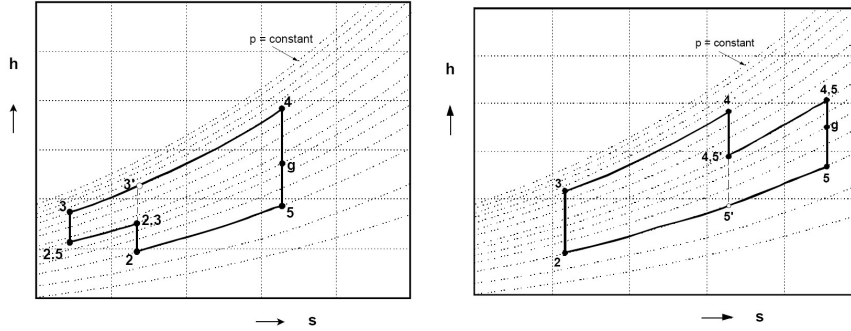

Figure 2: The enthalpy-entropy diagram for intercooling (left) and reheating (right).
2.5). (This is usually done such that $T_{2.5} = T_2$. Intercooling is also performed isobarically, so $p_{2.3} = p_{2.5}$.) Finally, the gas is compressed again, until we're at point 3. The applied pressure ratio during this step is $\varepsilon_2 = p_3/p_{2.5}$. The total applied pressure ratio is $\varepsilon_{tot} = \varepsilon_1\varepsilon_2 = p_3/p_2$. The entire process of intercooling has been visualized in figure 2 (left).
From point 4, we start by expanding the gas in the turbine. We soon reach point 4.3. (Again, we define $\varepsilon_1 = p_4/p_{4.3}$.) The gas is then reheated, until point 4.5 is reached. (This is done isobarically, so $p_{4.3} = p_{4.5}$.) From this point, the gas is again expanded in a turbine, until points g and 5 are reached. We now have $\varepsilon_2 = p_{4.5}/p_5$ and $\varepsilon_{tot} = \varepsilon_1\varepsilon_2 = p_4/p_5$. The entire process of reheating has been visualized in figure 2 (right).